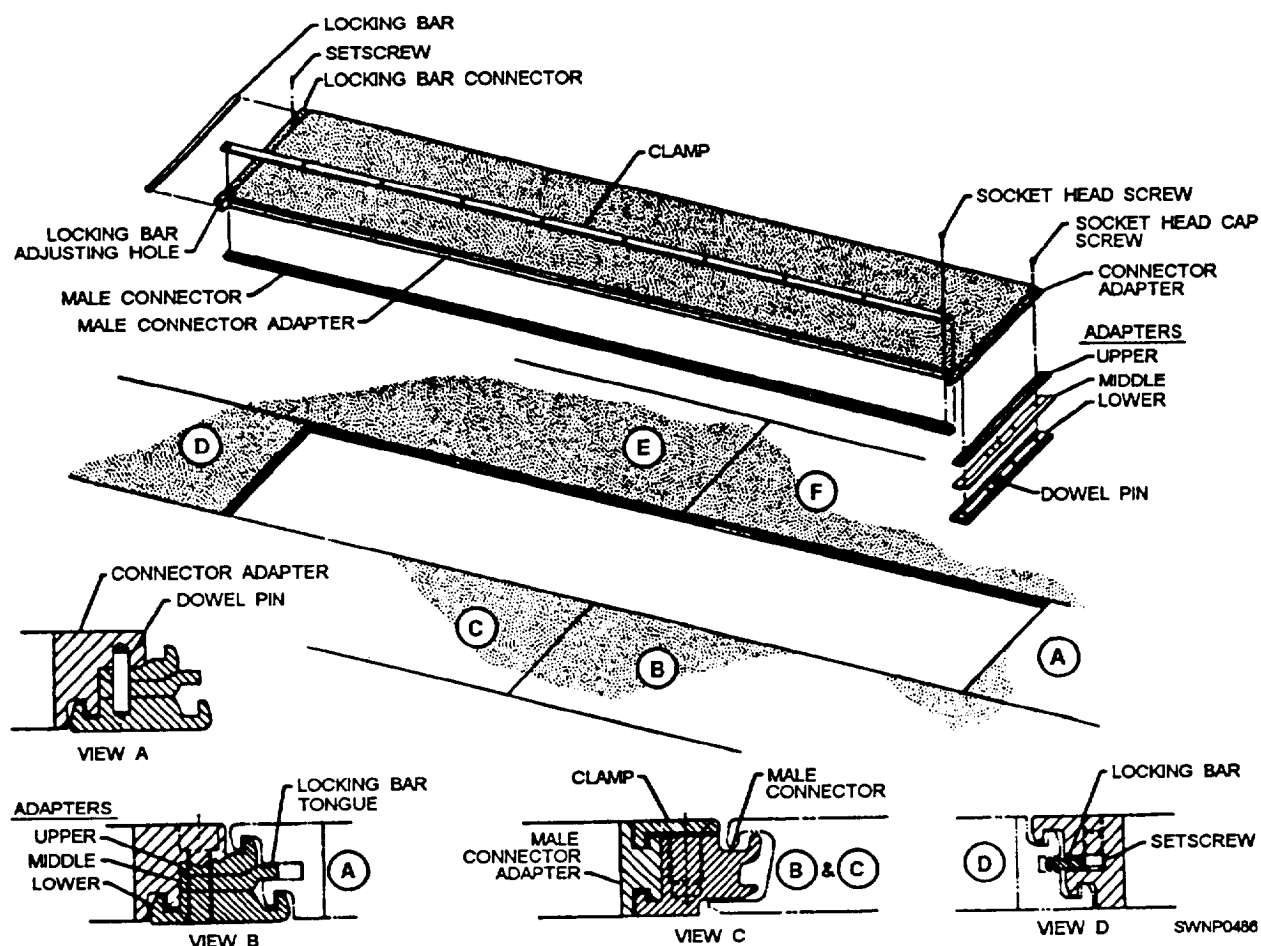

Figure 11-34.—Replacement mat installation.
3. Remove the male connector and adapters from the replacement mat, using socket head screw wrenches taped to the pallet. Be careful to retain the dowel pin in the lower adapter. (See view A of fig. 11-34.)
4. Place the lower adapter prong under the lower prong of the prongs-down end of the adjacent mat A, keeping the dowel pin up. (See view A of fig. 11-34.)
5. Place the middle and upper adapters on the lower adapter, using the dowel pin as a locating device. Ensure that the locking bar tongue on the middle adapter is in the locking bar slot of mat A and the upper adapter prong mates with the upper prong of the prongs-down end of the adjacent mat A. (See view B of fig. 11-34.)
6. Place the male connector into the female connector of adjacent mats B and C. (See view C of fig. 11-34.)
7. Place the female connector edge of the replacement mat over the grooves of the male connector edges of adjacent mats E and F (fig. 11-34) in the same manner that AM-2 mats are connected. Gently lower the replacement mat into place, being careful to lift the dowel pin into the hole in the connector adapter and the male connector adapter into the groove in the male connector. (See views A and C of fig. 11-34.)
8. Align the holes between the upper, middle, and lower adapters and the connector adapter. The dowel pin will provide at least approximate alignment, although some minor shifting of the replacement mat with a pry bar maybe necessary. Insert and tighten the four socket head cap screws with the 5/16-inch box wrench provided. (See view B of fig. 11-34.)
9. Place a clamp over the male connector. Alignment of holes can be accomplished by sliding the clamp in the adapter grooves. Insert and tighten the ten socket head screws with the 5/16-inch wrench. (See view C of fig. 11-34.)